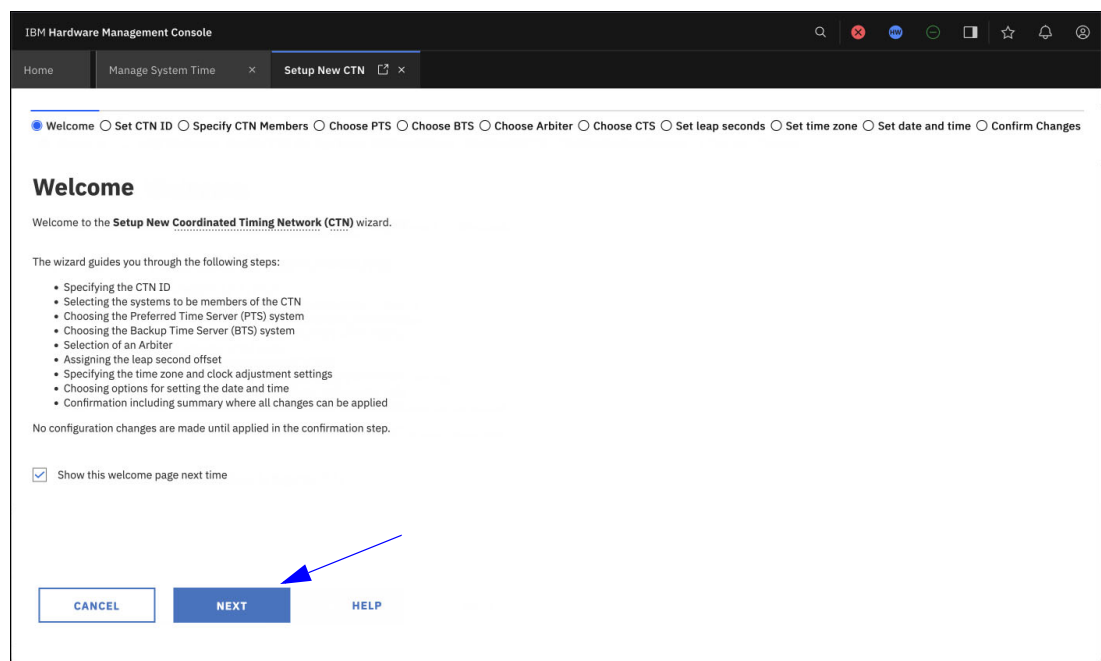

Figure 3-3 Setup new CTN - Welcome window
- From the left menu, select “Setup new CTN” to initiate the configuration, as shown in Figure 3-3.